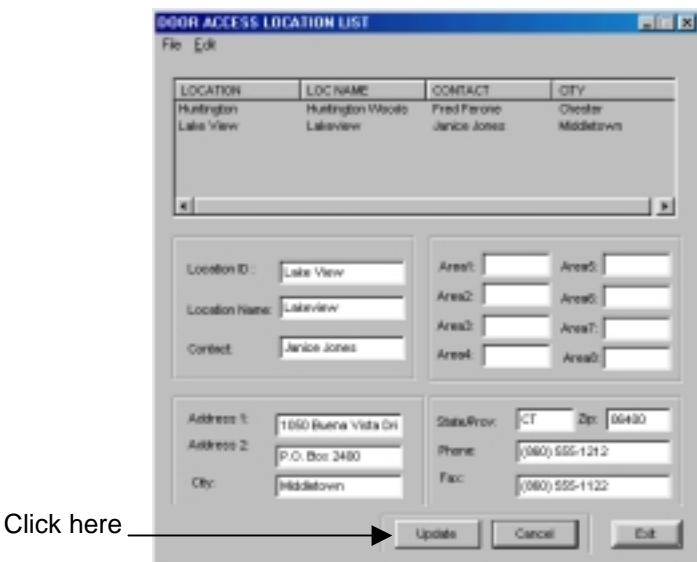

Figure 11.16 Updating an Edited Location
4. Verify that the new information is accurate and click the Update button to save your changes (Figure 11.16).